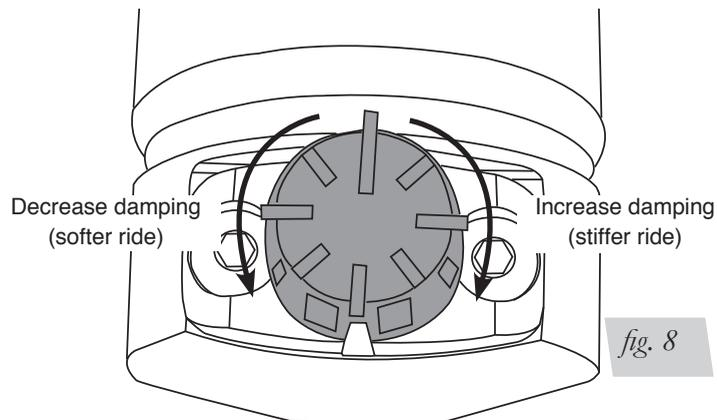

fig. 8
1. Some struts for this vehicle come with a nine-position damping dial for added adjustability (fig. 8). If not, proceed to 2.